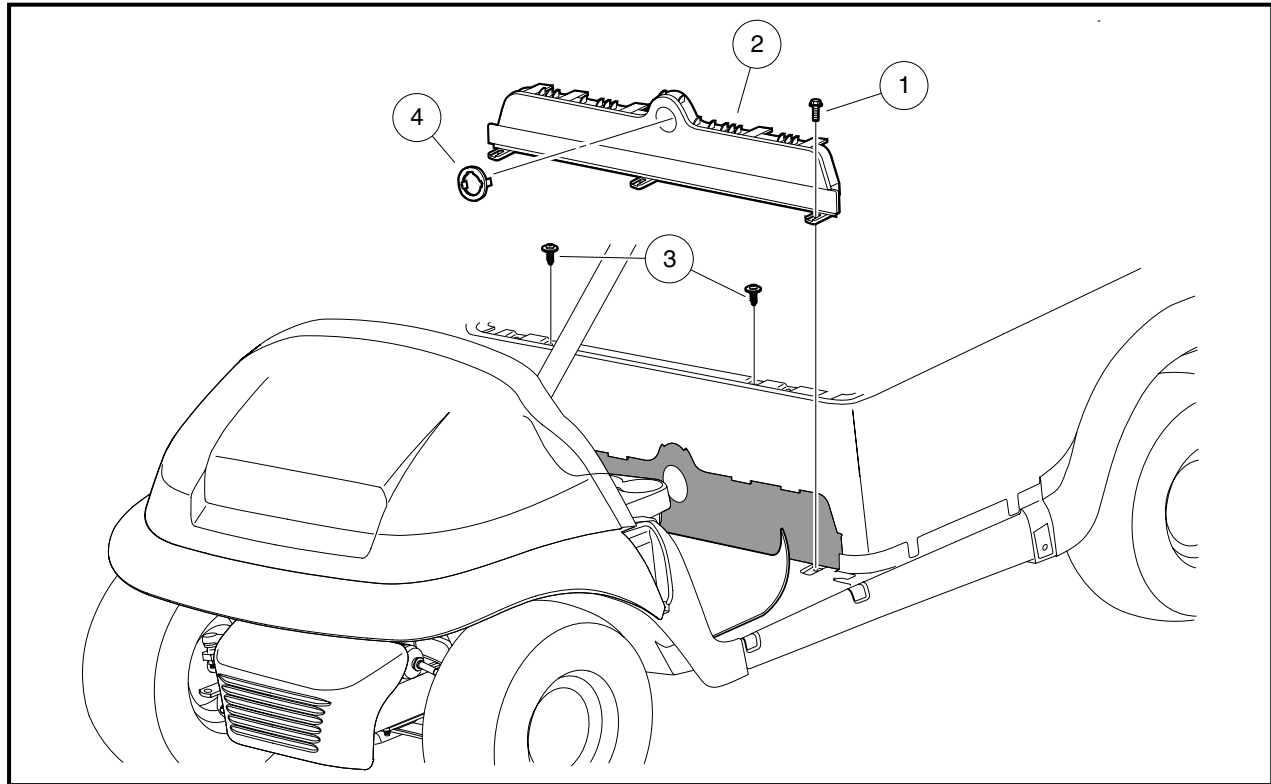

Figure 4-4 Kick Plate
1. If charger bezel (4) requires removal, use charger bezel tool (CCI P/N 102562401) to remove bezel from the kick plate (**Figure 4-4, Page 4-8**).
3. Remove three screws (1) that hold the kick plate (2) to the vehicle.
4. Remove the two front screws (3) that hold the beauty panel to the vehicle. Raise the forward portion of the rear beauty panel to disengage it from the tabs on the upper portion of the kick plate.
1. Position the kick plate (2) on the vehicle and secure with three screws (1) (**Figure 4-4, Page 4-8**). Ensure front lower edge of rear beauty panel mates with the kickplate. Tighten screws to 3.3 ft-lb (4.5 N·m).
2. Install two front screws (3) to secure the rear beauty panel. Tighten screws to 3.7 ft-lb (5 N·m).
4. Snap charger bezel (4) in place on the kick plate.